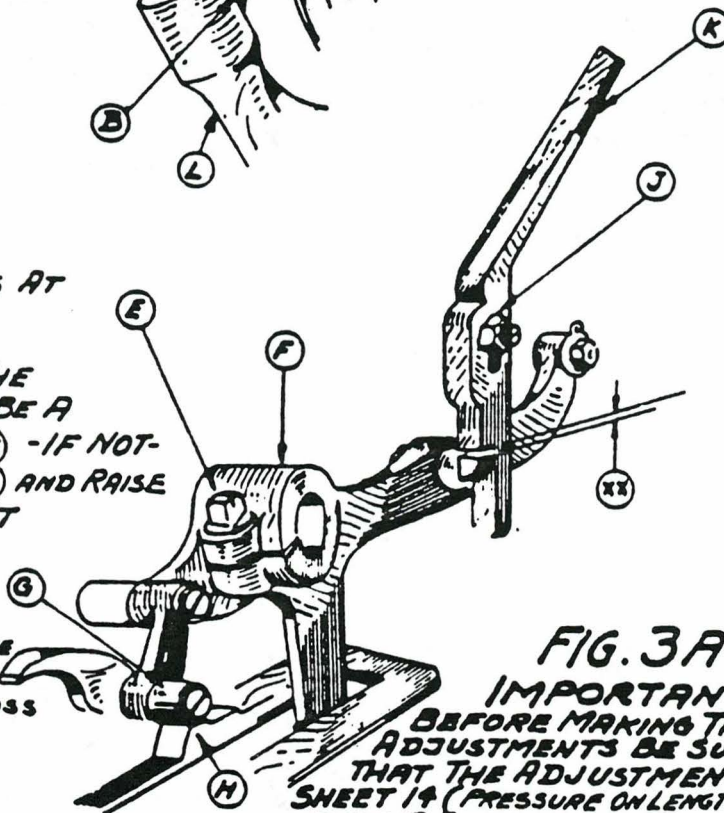

FIG. 3A
MAKE ADJUSTMENT BY LOOSENING SCREW (E) (FIG. 3A) AND SWING ROCKING LEVER (L) TO SUIT. SEE NOTE AT BOTTOM LEFT OF SHEET.